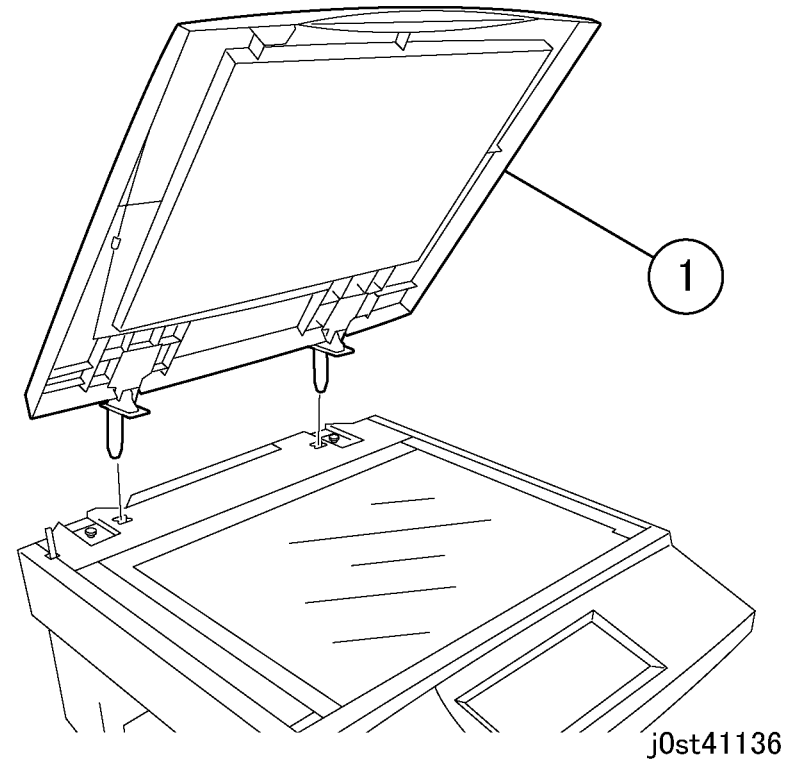

Figure 1 Removing the Platen Cover
1. For the Platen models, remove the Platen Cover. (Figure 1)